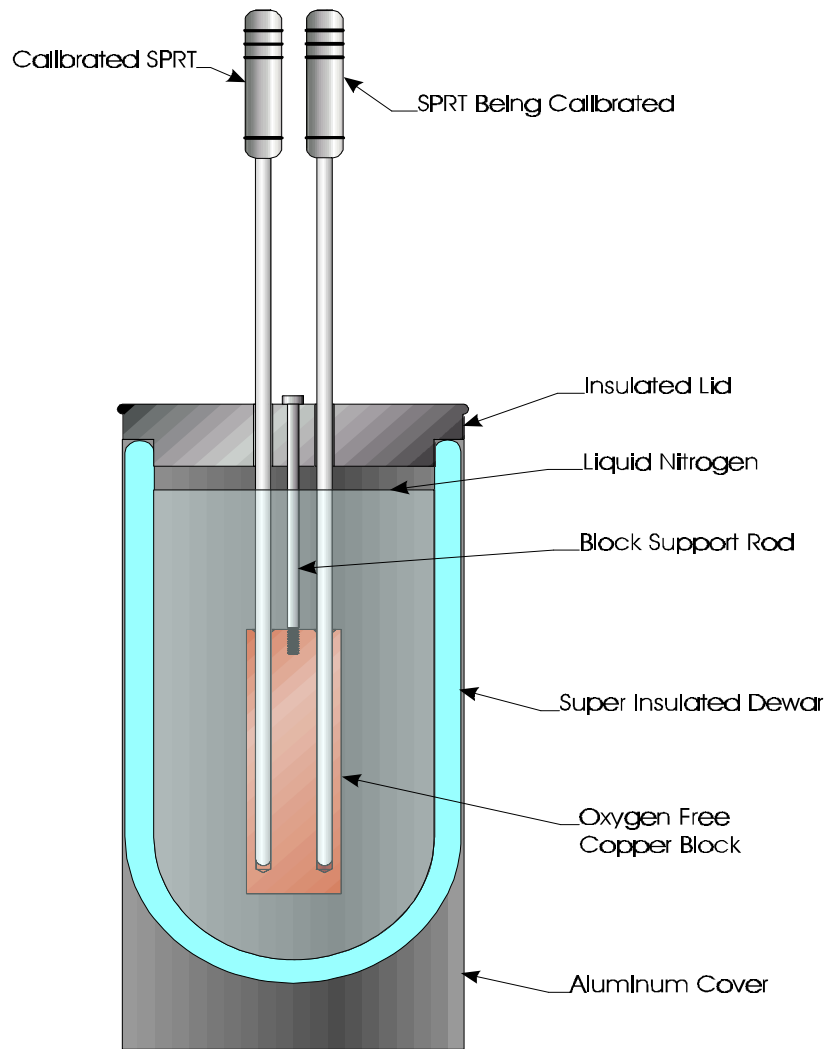

Figure 2: Cut-Away View of Liquid Nitrogen Comparator
| FIGURE 2: CUT-AWAY VIEW OF LIQUID NITROGEN COMPARATOR..... | 11 |
The Hart Scientific Liquid Nitrogen Comparator Model 7196 (Figure 2) consists of a Pyrex® Dewar Flask, a lid, a connection rod and an oxygen-free copper block with four wells to accommodate thermometers to be calibrated. During use the oxygen-free copper block is completely immersed in liquid nitrogen. Up to four thermometers, including a reference thermometer as the standard for comparison calibration, are directly immersed in the liquid nitrogen inside the block. The boiling temperature of nitrogen depends on the atmospheric pressure. If the pressure is stable, the liquid nitrogen temperature will be stable and uniform also. The oxygen-free copper has extremely good thermal conductivity, therefore, the copper block will enhance the temperature uniformity in the comparator greatly.
3. Insert SPRTs or other types of temperature probes to be calibrated into the liquid nitrogen and into the wells in the block.. (See Figure 2)